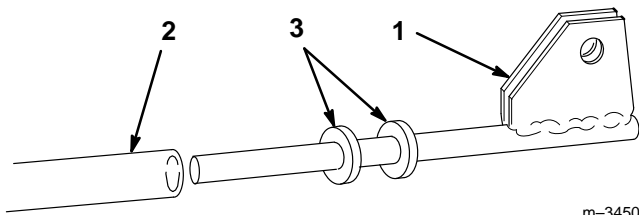

Figure 8
10. Add (2) 3/4" (8 mm) washers onto the end of the lift rod, then slide it into the lift tube (Fig. 8).